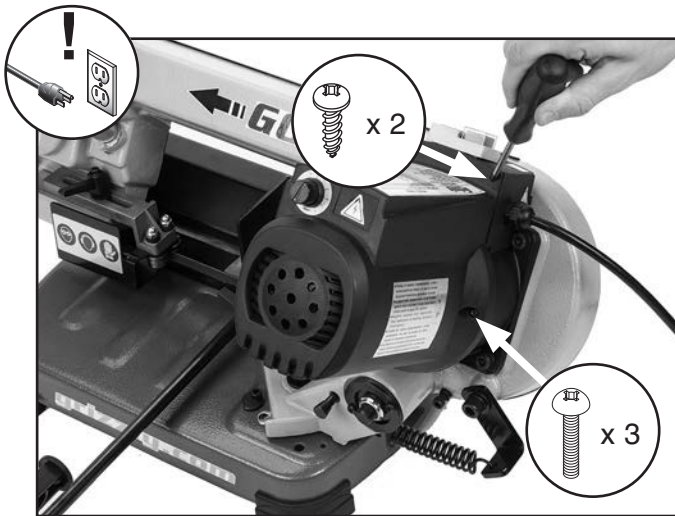

Figure 30. Removing motor cover.
2. Take off motor cover by removing 5 screws (see **Figure 30**).